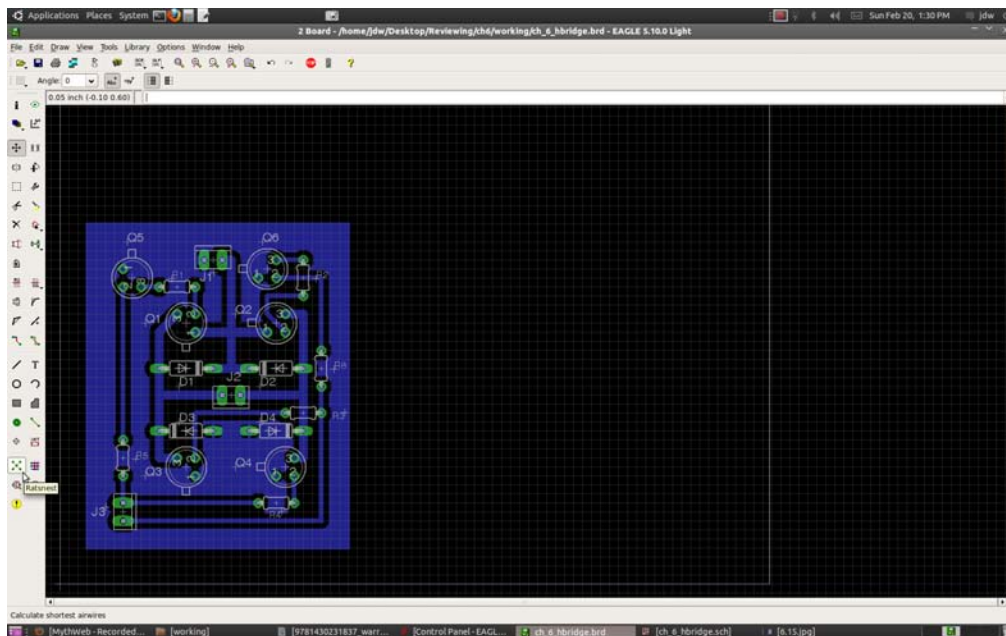

Figure 6-14. Using the Ratsnest tool fills in the Ground plane.
8. *Filling in the Ground plane:* After the polygon is named and the clearances set, click the Ratsnest button once again to fill in the Ground plane (see Figure 6-14). This fills in all empty space with a large copper pad that is connected to all Ground connections in the circuit. Using a Ground plane is not always necessary, but it keeps you from having to remove an excess amount of copper from the board when etching, resulting in a much quicker etching time. You can play with the clearances if you want to add more space between the pads and traces. I selected 30mm clearances because it works every time; I have had trouble with the default 8mm clearance that tends to make the gaps so small that solder pools across them onto other traces, causing difficulties while assembling.